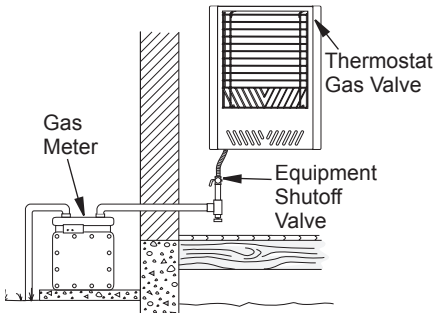

Figure 13 - Checking Gas Joints for Natural Gas
3. Check all joints from gas meter for natural gas or propane/LP supply tank for propane/LP gas, to equipment shutoff valve (see Figure 13 or 14, page 12). Apply a noncorrosive leak detection fluid to all joints. Bubbles forming show a leak.
4. Check all joints from equipment shutoff valve to thermostat gas valve (see Figure 13 or 14). Apply a noncorrosive leak detection fluid to all joints. Bubbles forming show a leak.